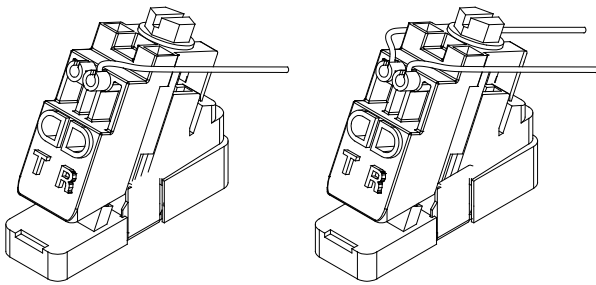

Figure 3
4.2 Upper Port Subscriber Connections (see Figure 3)
- Dress the wires through the strain relief slots to hold them in place (see Figure 3).